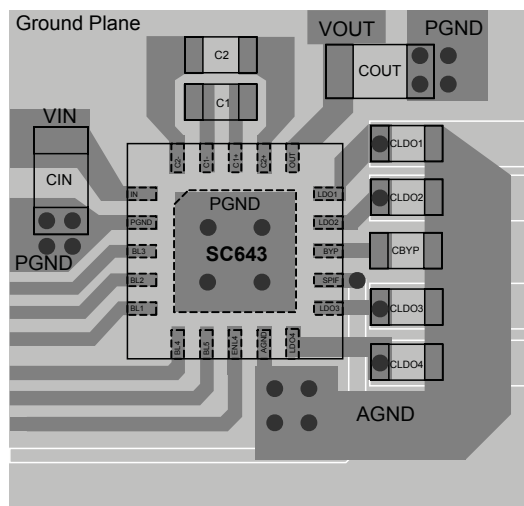

Figure 2 — Recommended PCB Layout
The layout diagram in Figure 2 illustrates a proper two-layer PCB layout for the SC643 and supporting components. Following fundamental layout rules is critical for achieving the performance specified in the Electrical Characteristics table. The following guidelines are recommended when developing a PCB layout:
- The following capacitors — CLDO1, CLDO2, CLDO3, CLDO4, and CBYP — should be grounded together. Connect these capacitors to the ground plane at one point near the AGND pin as shown in Figure 2.